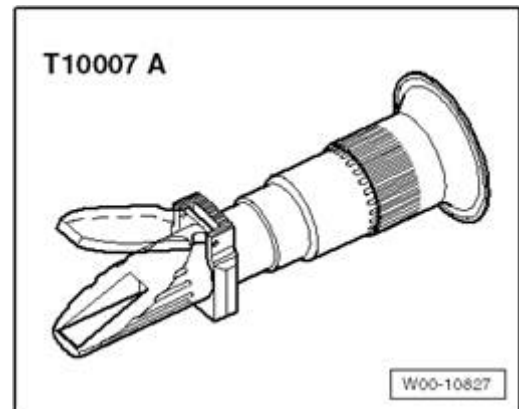

Figure 6. T10007A refractometer.
- The concentration and freeze point can be checked using the T10007A refractometer (Figure 6).